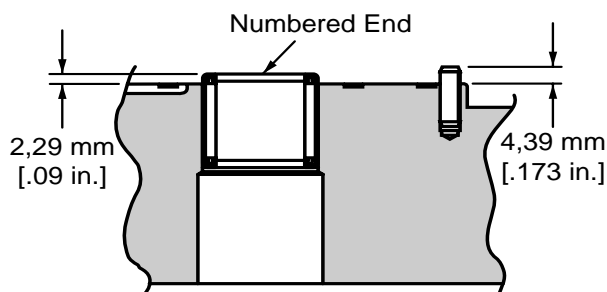

Figure 1-3
- Check the bearing (press fit) in endcover. If needles remain in cage, move freely, and setting is at the dimension shown in figure 1-3, removal not required.
- Check roll pin in endcover. If tight and set to the dimension shown in figure 1-3, removal not required.
13 If necessary, press new bearing and roll pin in endcover to dimension shown in figure 1-3. Bearing installed with the numbered end outward. Roll pin installed with split oriented away from bearing.